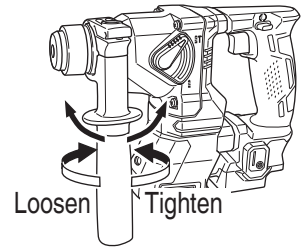

Fig. 8
3. Attaching the side handle (Fig. 8)